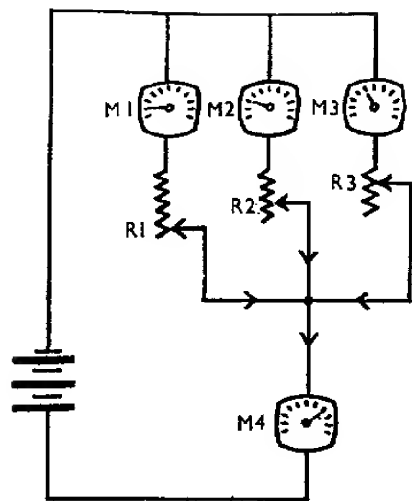

Fig. 88
From what you know about the behaviour of electric currents can you suggest how the circuit shown in Fig. 88 could be used as an adding machine to add together three numbers? (23) This is really a simple kind of analogue computer.